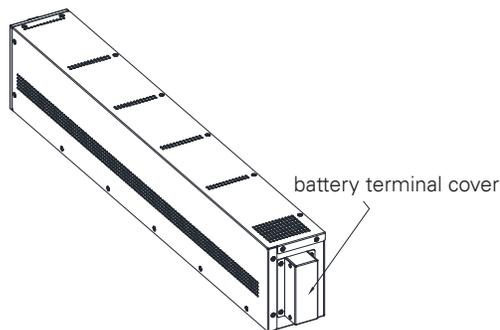

Figure 4-4: Open the Battery Terminal Cover
2. Open the battery terminal cover, see Fig4-4.